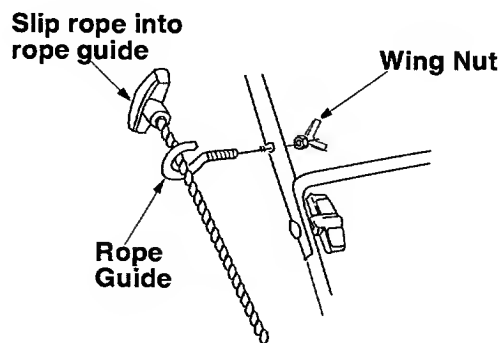

Figure 6
- The rope guide is attached to the right side of the upper handle. Loosen the wing nut which secures the rope guide. For location of the wing nut, see Figure 6.
- With the spark plug wire disconnected and grounded, hold the blade control handle against the upper handle, and pull the starter rope out of the engine. Release the blade control handle. Slip the starter rope into the rope guide. Tighten the wing nut. See Figure 6.